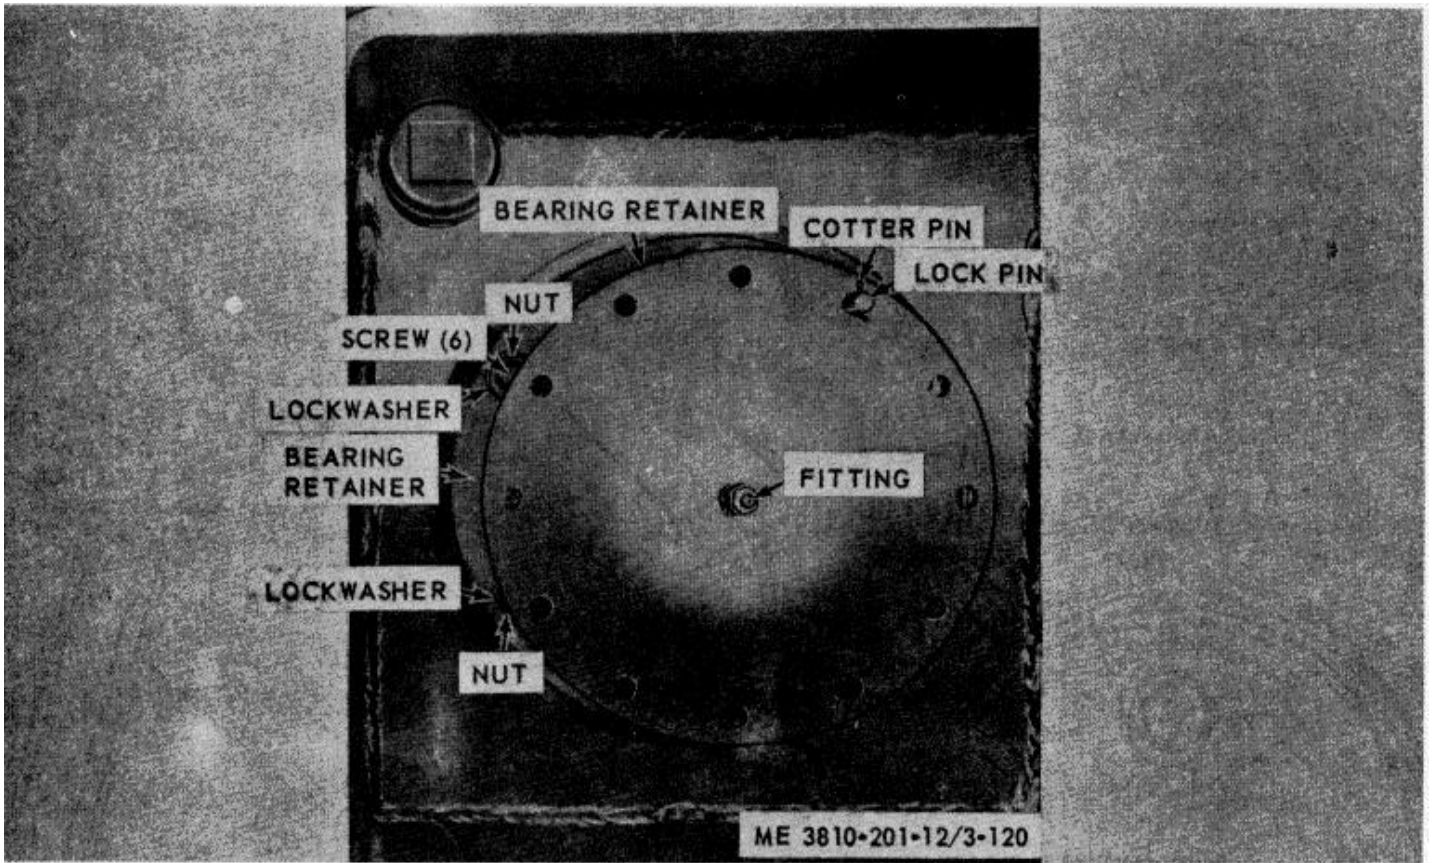

Figure 3-120. Vertical intermediate shaft adjustment.
a. Remove cotterpin (fig. 3-120) and lockpin from bearing retainer.